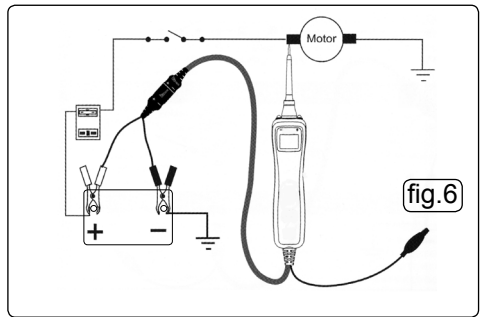

fig.6
3.9 Activating Components in the Vehicle. See fig.6.
3.11 JUMPER LEAD FEATURE (See Fig.6).